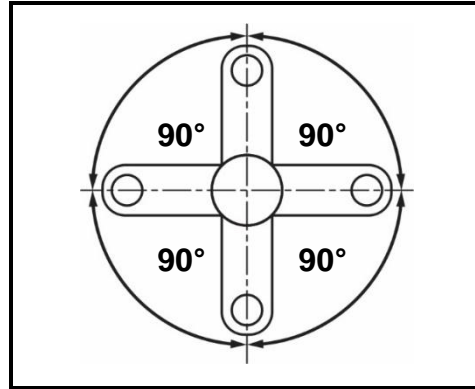

FIGURE 6.6.1
6.6 The position of the crank pins in different four-stroke in-line engines are shown in FIGURES 6.6.1 to 6.6.3 below. Identify the number of cylinders for EACH of the crank pin positions below.